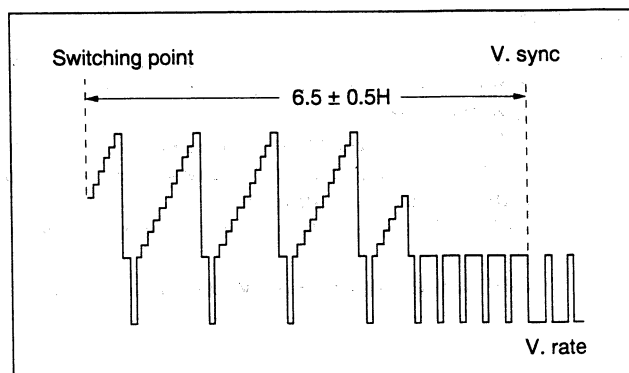

Fig. 3-2-2 PB switching point
- (1) Playback the stairstep signal of the alignment tape.
- (2) Connect an oscilloscope to VIDEO OUT TERMINAL and TP111 (negative slope), and then observe VIDEO OUT TERMINAL.
- (3) Press the "O" button of the presetting unit.
- (4) The adjustment is performed automatically. Once the adjustment is performed, the VCR will go into the STOP mode.
- (5) Playback the alignment tape again, confirm the switching point (See Fig. 3-2-2).